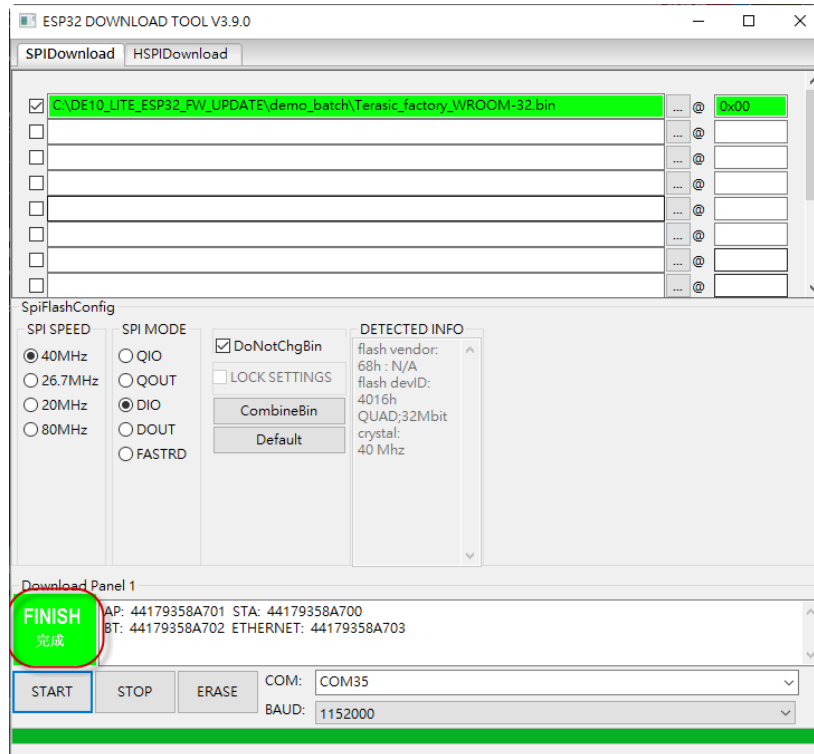

Figure 3-33 Firmware Download in FINISHED Status
11. When firmware download is finished, users will see “FINISHED” status on GUI, as shown in **Figure 3-33**.